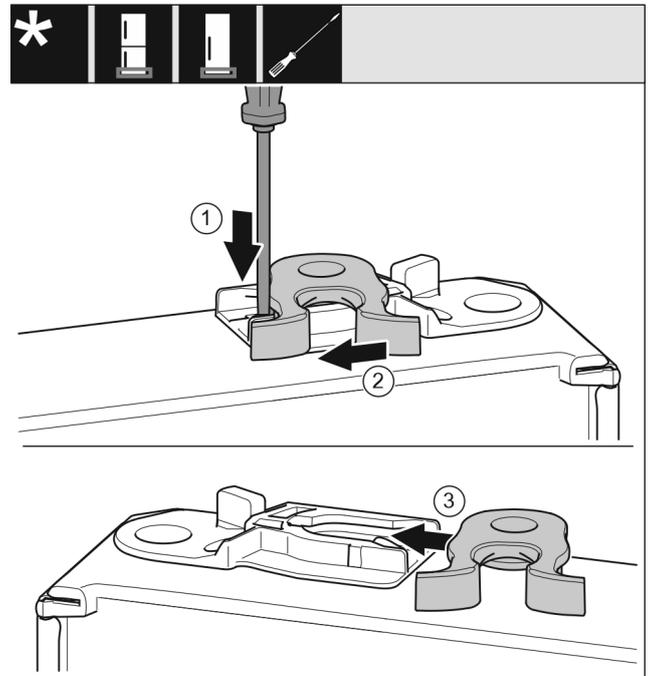

Fig. 19
- ▶ Push the lug downwards with a slotted screwdriver. Fig. 19 (1)
- ▶ Pull the door latch out of the guide. Fig. 19 (2)
- ▶ Push the door latch into the guide on the other side. Fig. 19 (3)